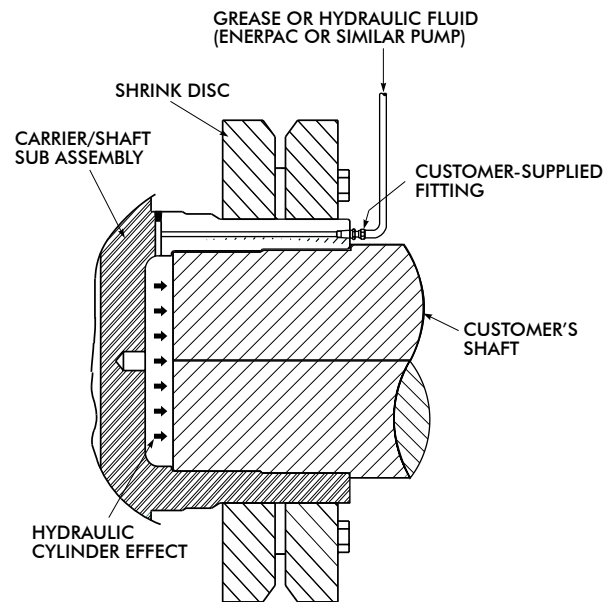

Figure 5.2
- C. Utilize 'hydraulic advantage' by accessing ports (1/8-27 NPT) located on hollow shaft face, and on outer diameter of hollow shaft (Figure 5.2)